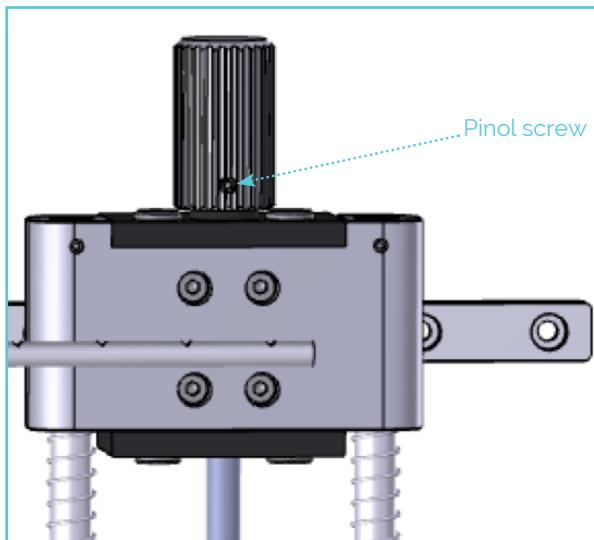

Figure 70: Pinol screw can be used for orientation when turning the positioner 3 turns
Step 6: Once the 'Force zero' trace is steady, turn the vertical adjusting screw exactly 3 turns in the clockwise (Contraction will result in negative values) or anticlockwise direction (Contraction will result in positive values). One turn of the screw is equal to 0.35 mm and therefore three turns corresponds to a 1.05 mm displacement. Use the small pinol screw for orientation when turning 3 rounds (figure 70).